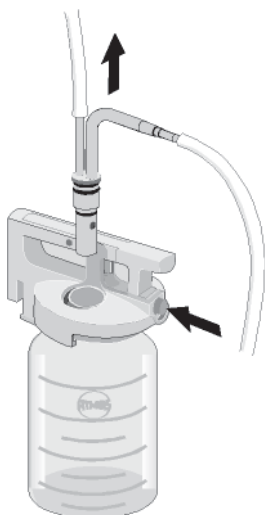

Fig. 18. Removing the double socket nipple
- Remove the double socket nipple from the jar (Fig. 18). If a second collection jar has been installed, insert the double socket nipple there.
- Either insert a new jar or empty the one that you just removed. Press the release button to open the locking bow (Fig. 18). Dispose of the contents of the collection jar, observing the applicable waste control regulations.